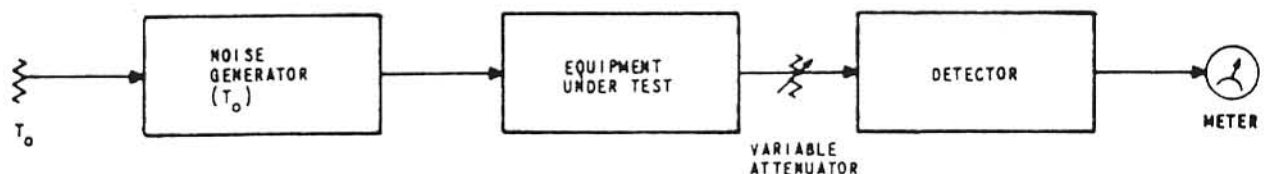

FIGURE 4-3. BLOCK DIAGRAM OF EQUIPMENT SETUP FOR DETERMINING NOISE FIGURE
4-10. Figure 4-3 is a block diagram showing the basic setup of equipment. The noise generator can be any one of a number of devices of known excess noise ratio. The most common are: (1) the gas-discharge lamp, in which the excess noise ratio is primarily a function of the type of gas, the diameter of the discharge column, and the gas pressure, and (2) the new solid-state noise generators, such as the AILTECH 76 series.